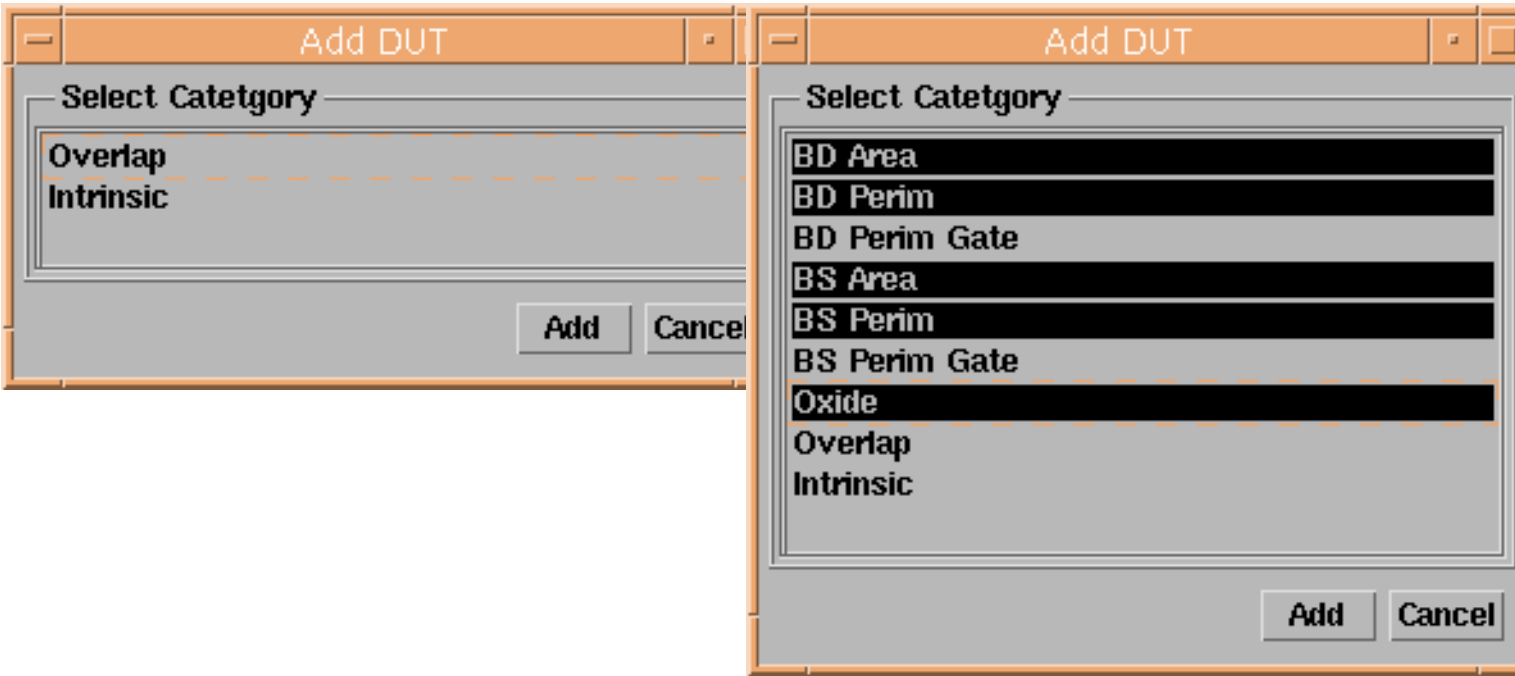

Figure 1-28. Add DUTs to measure capacity
- To add new DUTs: Click the **Add** button on the left side of the form. You will be prompted for a group of capacitances to add DUTs to (Figure 1-28). Select the desired group (junction